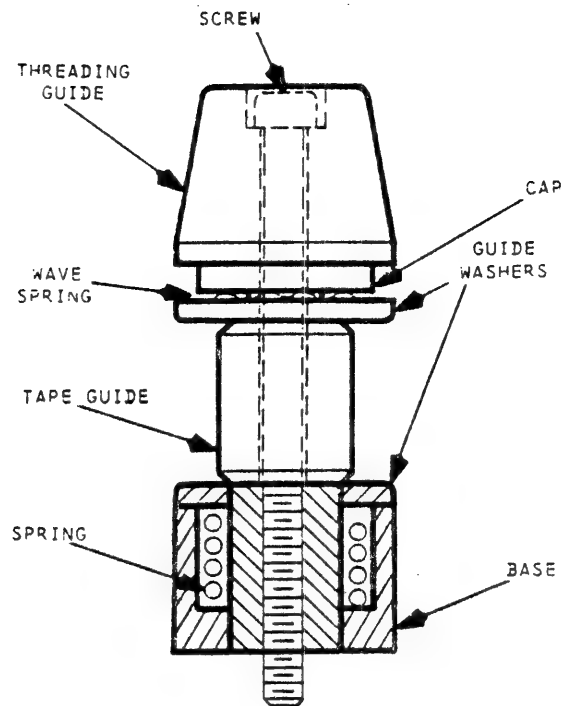

Figure 5-1. Single-Edge Tape Guide
5-14. SINGLE-EDGE TAPE GUIDE. To replace a damaged or worn single-edge tape guide (Figure 5-1) or one of its parts, proceed as follows:
- b. Replace defective part, reassemble parts in accordance with Figure 5-1, and secure to base plate with mounting screw. No adjustment is required. Be sure guide mounting surface is free of burrs and debris which could keep guide from seating solidly on machined casting surface. Note that sapphire washer has only one polished surface, which must be surface against which tape rides.